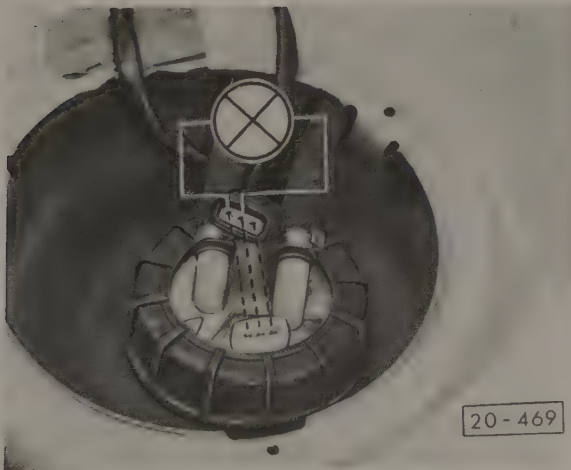

Fig. 4-3. Voltage supply to transfer pump being checked at harness connector using test light (shown schematically).
5. If the transfer pump still does not run, check for voltage at the transfer pump harness connector, as shown in Fig. 4-3. If voltage is reaching the connector, the transfer pump is probably faulty and should be replaced.